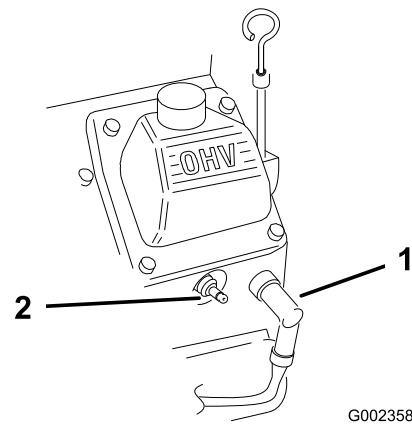

Figure 21
2. Disconnect the wires from the spark plugs (Figure 21).